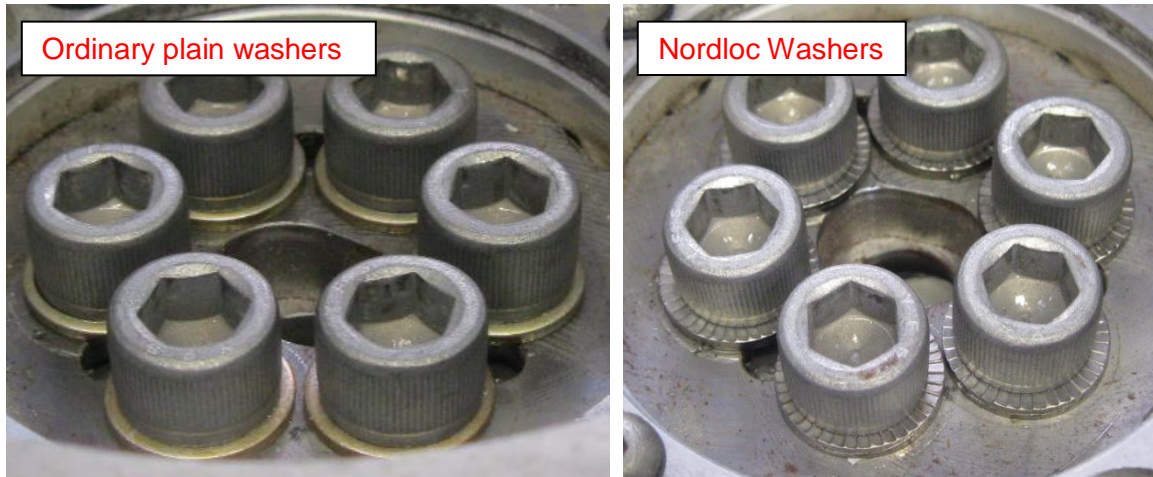

Figure 45 - Plain washers compared to Nordloc washers
- **Figure 45** shows the difference between plain and Nordloc washers